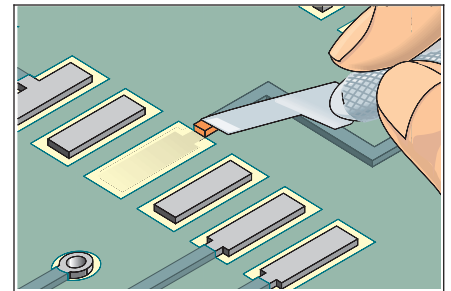

Figure 2 Scrape off solder resist.
4. Scrape off any solder resist or coating from the connecting circuit. (See Figure 2.)